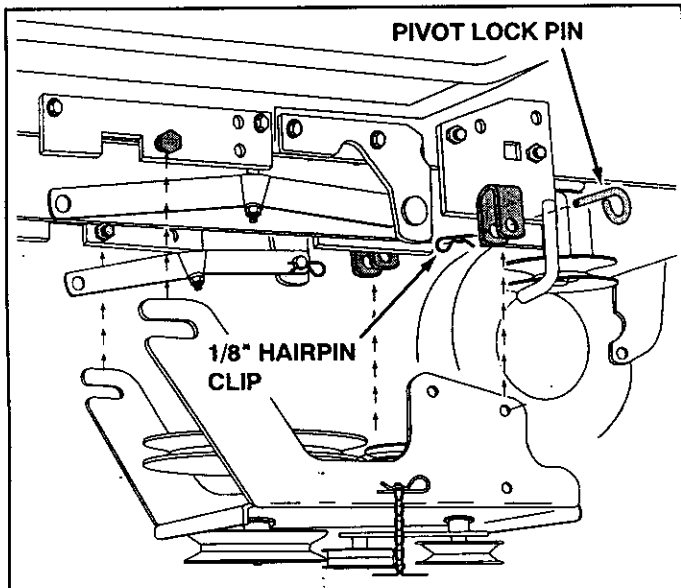

FIGURE 8 RIGHT SIDE VIEW
- Attach the rear of the clutch/idler assembly to the tractor frame by sliding the notched arms of the assembly onto the shoulder bolts assembled to the frame brackets. Lift the front of the assembly, positioning the upper idler pulley so that it clears the engine pulley. Attach the front of the assembly to the hanger brackets using two pivot lock pins and 1/8" hairpin clips. See figure 8.